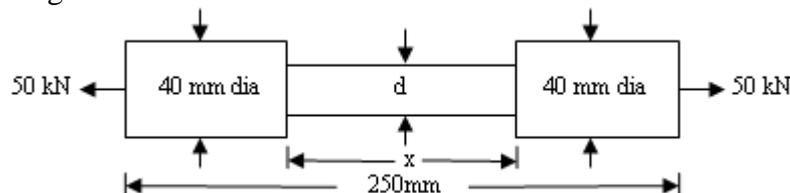

fig.2
- (c) The bar shown in fig.2, find the diameter of middle portion .Stress is limited to 130 MN/m^2 . Find also the length of middle portion if the total elongation of bar is 0.15mm. Take $E = 200 \text{ GN/m}^2$. **07**